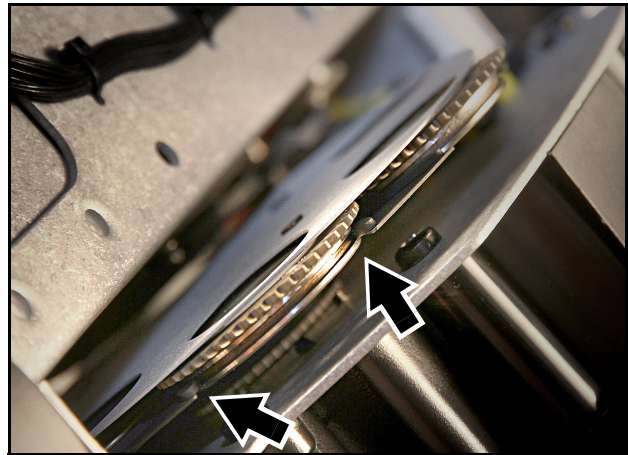

Figure 12: Rotating gobo jaws
5. To install a goboholder in the gobo wheel See Figure 12. Check that the magnets in all the goboholders are still facing towards the reference point, then slide the new goboholder into its clip in the gobo wheel with the magnet facing towards the reference point. Make sure that the groove in the goboholder slides into the goboholder jaws (arrowed). Do not apply lubricant to the groove or jaws. Excess grease can cause loss of step.